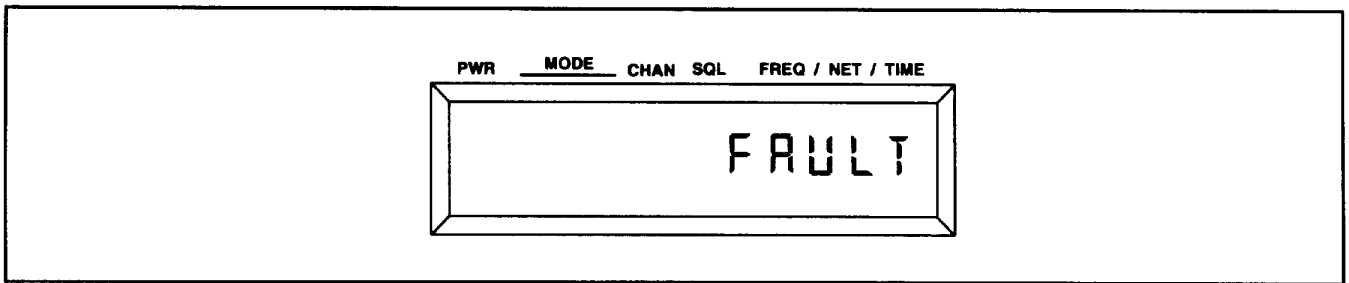

FIGURE 2-3.
j. Should a fault be detected, the LCD will display faults by alternately flashing the word FAULT (refer to Figure 2-3) and the abbreviation corresponding to the fault area, e.g., FAULT, ANT, FAULT.